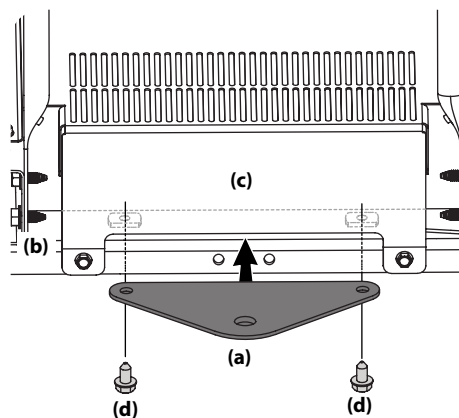

Figure 2-12
1. Slide the hitch plate (a) in between the frame (b) and the rear cover (c) on your rider. See Figure 2-12.
2. When the holes in the hitch plate (a) and the frame (b) are aligned, install the two hex screws (d) up through the frame (b) and into the hitch plate (a). See Figure 2-12.